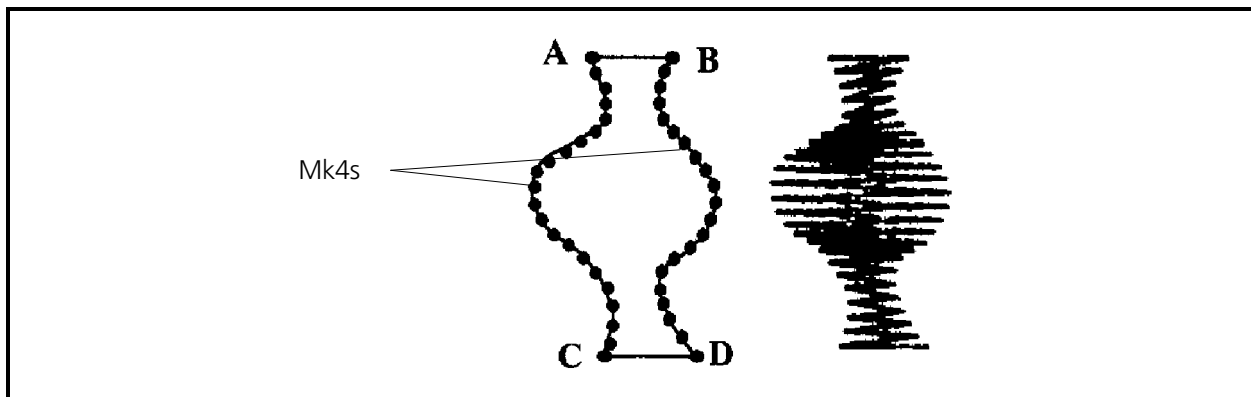

Figure 3-34
Another type of curve smoothing column digitizing is to define a side or sides using multiple Mk4s. The sample in Figure 3-34 illustrates this technique.
1. Refer to the Figure 3-34 and enter a Mk1 at point A and a Mk2 at point B to initiate the column.
The result of the above digitizing should yield a design similar to the one on the left in Figure 3-34.